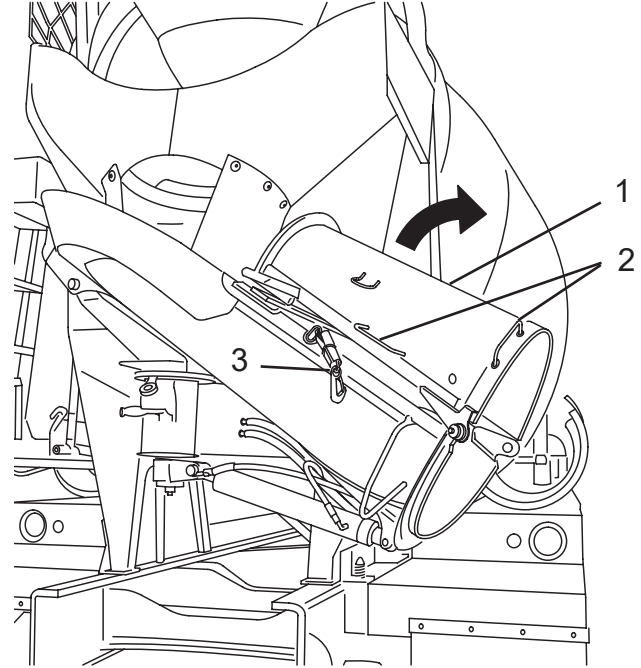

Figure 76
2. Disconnect the retaining chain (Figure 76, Item 1) from the fold-over chute (Figure 76, Item 2).
3. Grasp the fold-over chute by the handles (Figure 76, Item 3), and pivot the fold-over chute down until it firmly engages the main chute.